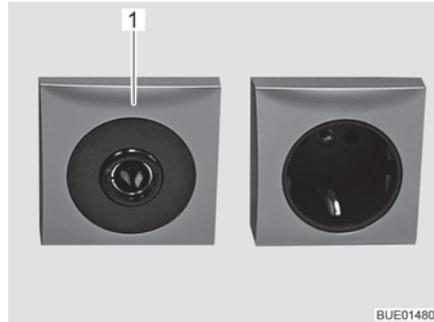

Fig. 136 12 V/10 A socket
- ▷ Only connect devices with a maximum of 10 A to the sockets (Fig. 136,1) of the 12 V power supply.